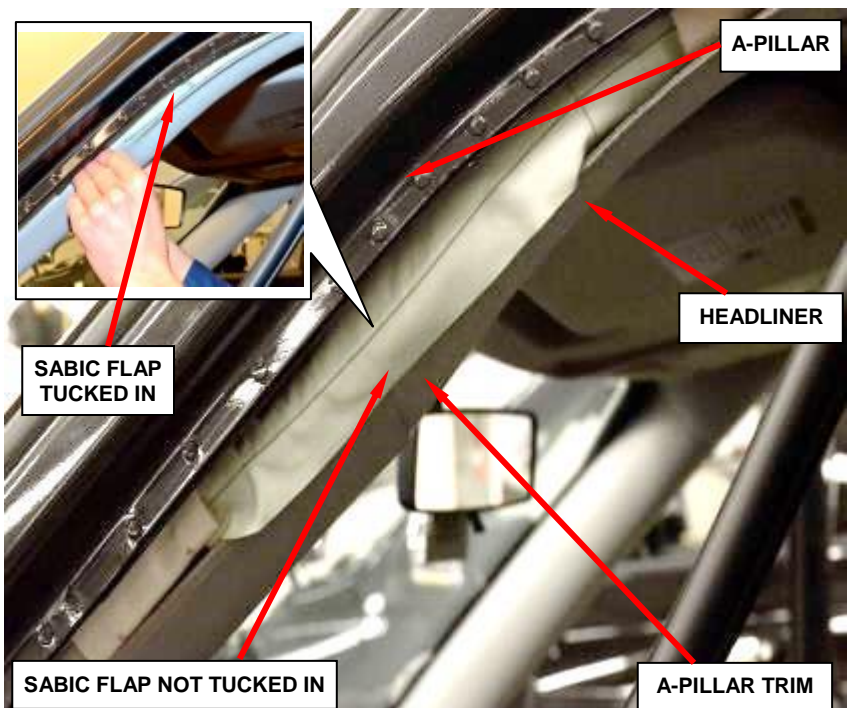

Figure 4 – SABIC Flap
**WARNING:** Make sure the SABIC flap is tucked inside the A-Pillar trim and the headliner to be sure it is not trapped between the A-Pillar and the A-Pillar trim (Figure 4).